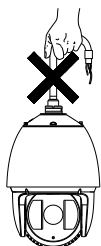

Figure 1-1 Do Not Drag the Cables
**Note:** Do not drag the speed dome with its waterproof cables as shown in Figure 1-1, otherwise the waterproof performance is affected.